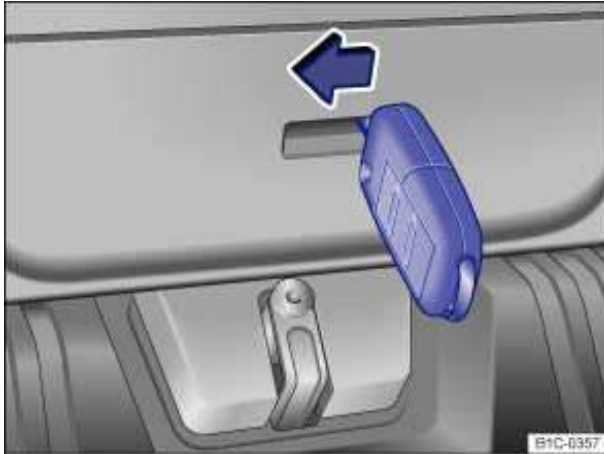

Fig. 132 View from luggage compartment: Opening the rear hatch.
- Insert the key into the slot on the rear hatch ⇒ fig. 132.